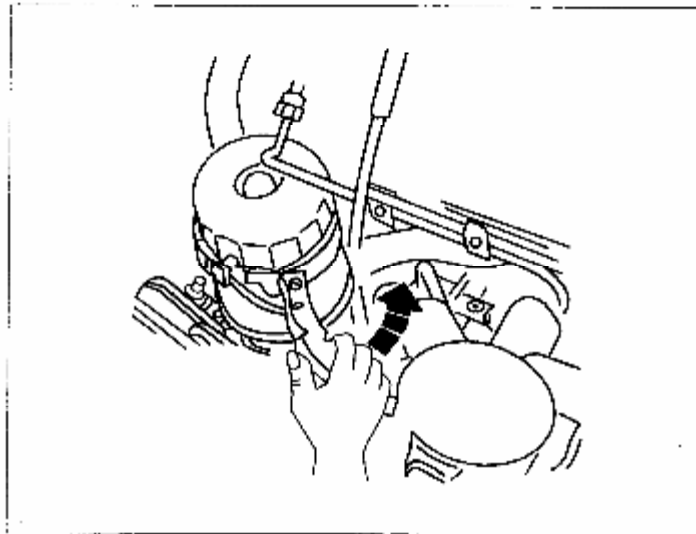
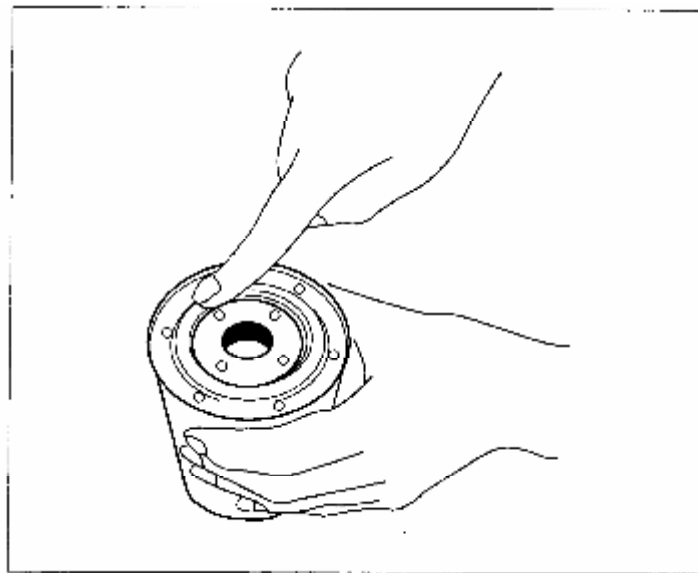

Figure 5-9 Replace oil filter
Figure 5-10 Replace oil filter
- (1) Set a container under the filter to receive overflowed oil.
- (2) Rotate filter counter-clockwise with a special spanner to remove (see fig.5-9)
- (3) Check and clean filter base to ensure new filter can be fitted well.
- (4) Apply a thin layer of oil on O-ring (fig.5-10). Screw new filter onto filter base with hand till resistance is felt. Then rotate filter clockwise (3/4 turn) with a special spanner.
- (5) Don't start engine before ensuring there is enough oil in oil pan.
- (6) Start engine to check whether there is oil leak in filter. Shut down engine and check oil level with dipstick, replenish when necessary.